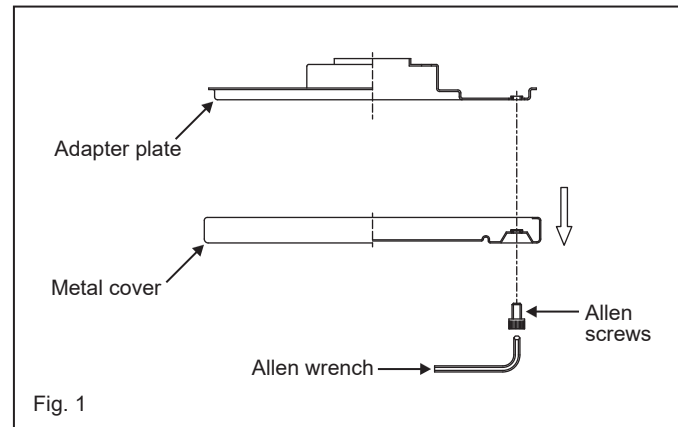

Fig. 1
- 1 Remove ball from downrod by loosening set screw in the side of the ball. Slide ball down and remove cross pin; remove ball. (Fig. 1)
1. Insert the controller into the ceiling mounting bracket with the flat side of the controller facing the ceiling. (Fig. 1) For best performance, make sure the Black Antenna and WIFI Antenna, on the end of the controller, remains extended and not tangled with any of the electrical wires.
- 1 Remove one of the three screws on the mounting hub located on the fan motor. Loosen the other 2 screws. (Do not remove) (Fig. 1)
- 1 Remove six Allen screws located in the metal plate assembly by using the allen wrench provided. Take out the metal cover from adapter plate. (Fig. 1)
- 1 Select a desired location. Use the wall plate to mark the location of the mounting holes. Plastic wall anchors or mounting screws are needed for this application. (Fig. 1)
Remove the panel from the transmitter and then install one 2032 battery (included). You need to use a coin to open or close the battery cover. To prevent damage to transmitter, remove the battery if not use for long periods of time (Fig. 1)